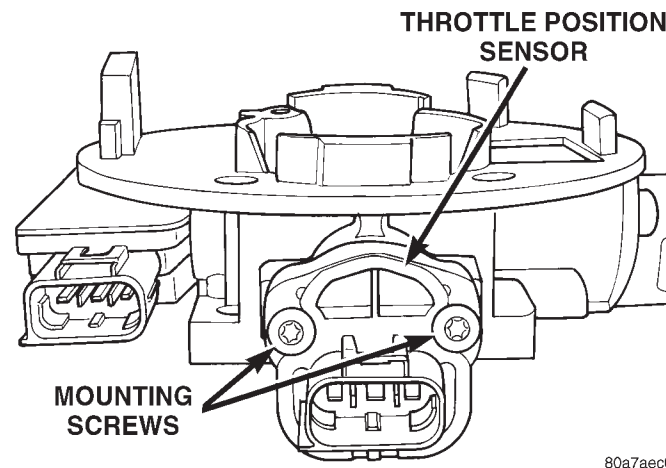

Fig. 67 TPS Mounting Bolts—5.2L/5.9L Engines—Typical
- (1) Remove air duct at throttle body.
- (2) Disconnect TPS electrical connector.
- (3) Remove two TPS mounting bolts (Fig. 67).